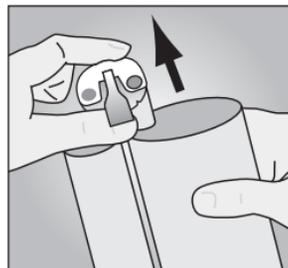

fig. 1
1. Disengage and remove the tamper-proof seal on the cartridge by raising the locking lever (fig.1). Discard tamper-proof seal after removal.